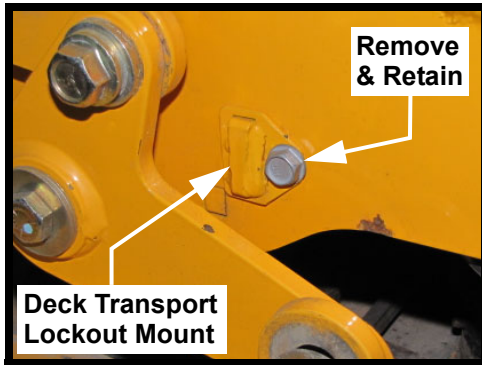

FIGURE 2
5. Remove the 5/16-18 tap tite screw that secures the current deck transport lockout mount. See Figure 2.
NOTE: The original Deck Transport Lockout Mounts (680-00158 & 680-00158A) are mounted on the outside of the frame rail. 680-00158 uses (1) 5/16-18 x 0.500" tap tite screw. 680-00158A uses two (2) 5/16-18 x 0.750" tap tite screws. The (680-00158) is shown in Figure 2.